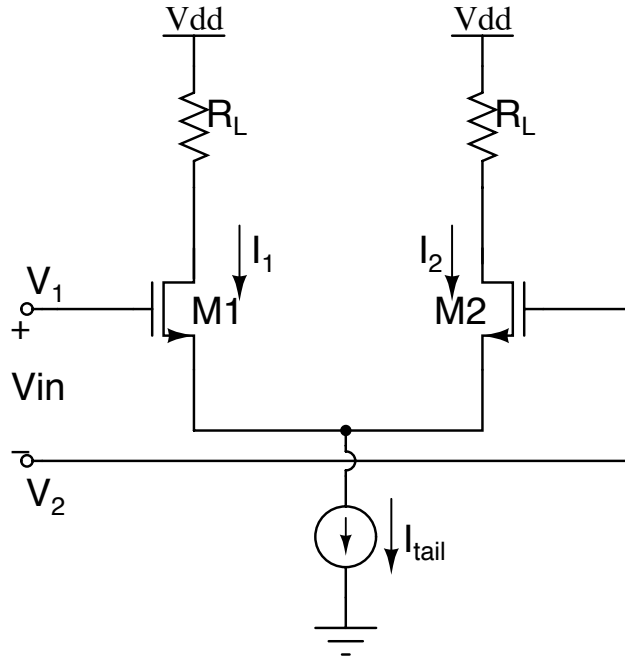
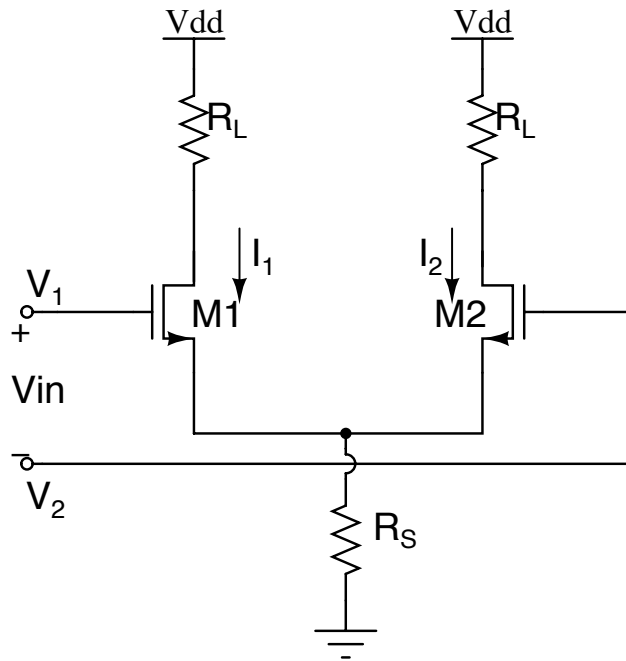
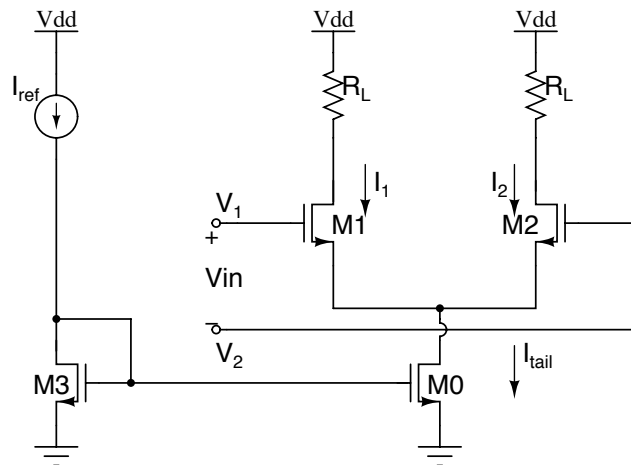

Figure 11: Basic Differential Pair Configuration with Ideal Current Source
Figure 12: Basic Differential Pair Configuration with R_S
Figure 13: Basic Differential Pair Configuration with Current Source Transistor
- Calculate the differential mode gain (A_d) for Fig11, Fig12 and Fig13. Provide simulation result for differential mode gain ($V_1 = 0.5$, $V_2 = -0.5$ for AC analysis).
- Calculate and simulate the common mode gain (A_{cm}) for the following cases shown in Fig11, Fig12 and Fig13 ($V_1 = 1$, $V_2 = 1$ for AC analysis).
- Common mode rejection ratio is defined as the tendency of the devices to reject the input signals common to both inputs of a differential pair and is given by $CMRR = 20 \log |\frac{A_d}{A_{cm}}|$. Calculate the CMRR for transistor realization of current source shown in Fig13.